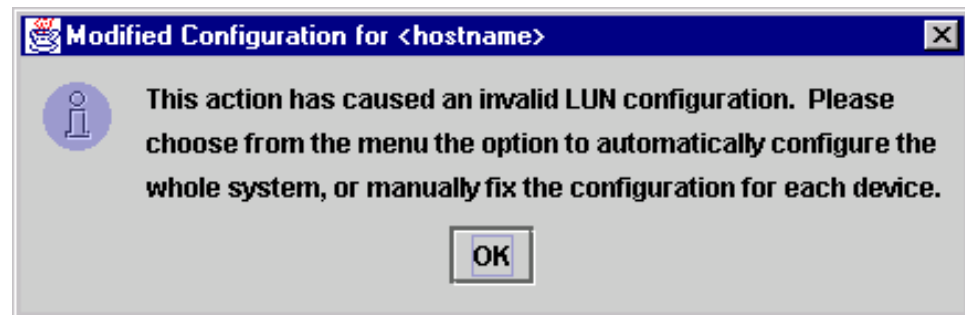

Figure 96. Modified Configuration Error dialog window
- Click **Set Unconfigured** to set this path as not visible to the operating system. The path is not used in failover conditions. If setting the path has caused the LUNs associated with this device to have an invalid configuration, the error message shown in Figure 96 is displayed.